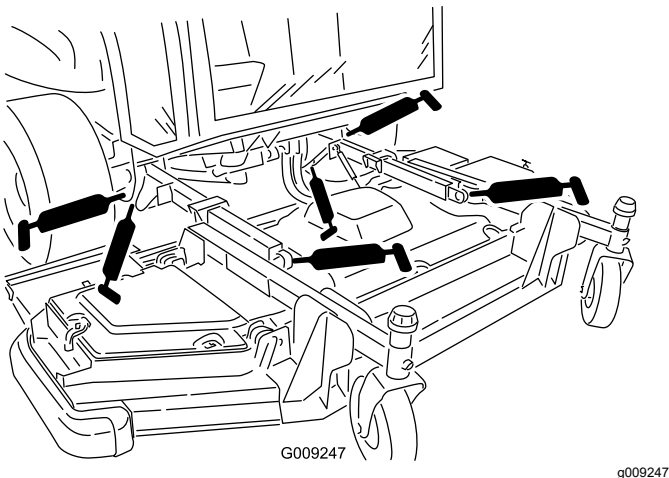

Figure 84
- 2 lift-arm bushings (Figure 84)
- 2 lift-arm-ball joints (Figure 84)
- 2 front deck lift-cylinder pivots (Figure 84)